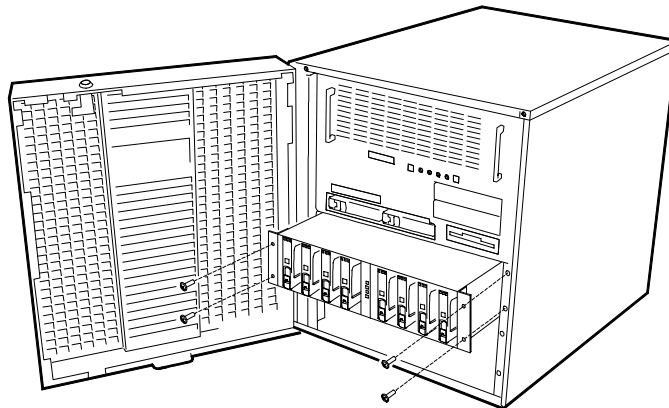

Figure 4-73. Removing the DEU from the Tower Cabinet
5. Remove the screws securing the DEU to the front of the tower cabinet (see Figure 4-73).
- 19.** Reinstall the DEU into the tower cabinet (see Figure 4-73), as follows: